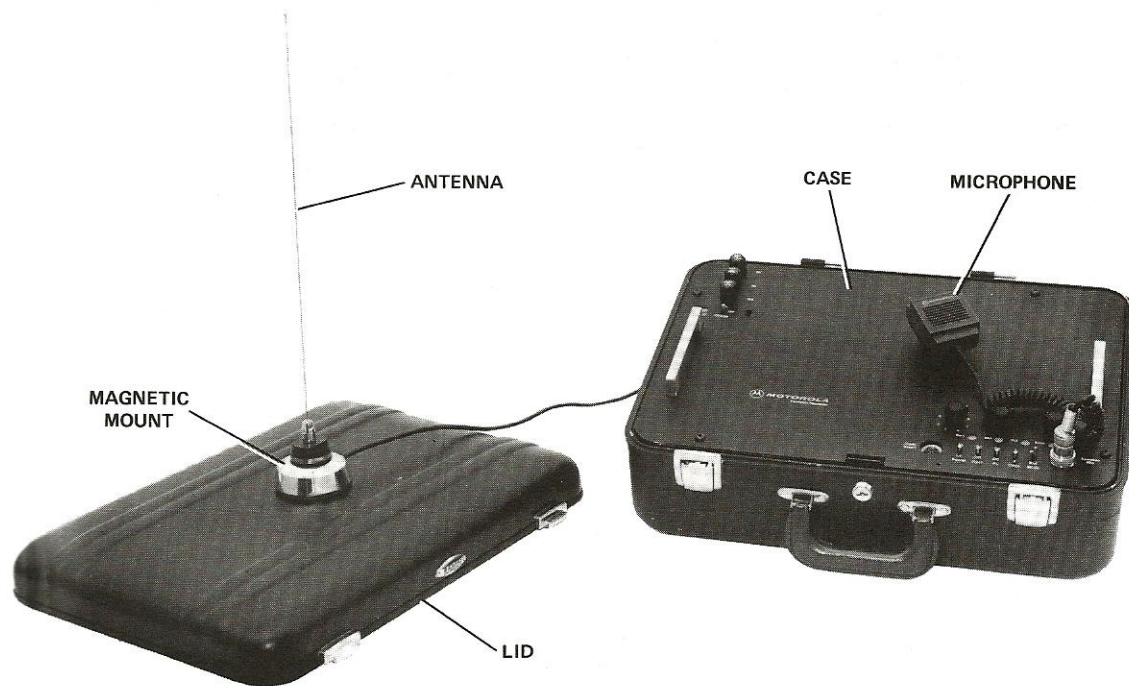

Figure 2-3. Magnetic Mount Antenna
- c. Connect the antenna cable to the rf connector on the rear panel. Verify that the antenna whip wire is cut to proper length for frequency of use. For best performance, place the antenna as high as practicable and provide the best possible ground plane. The detachable case top may be used if no better ground plane is available; see Figure 2-3. By providing a good antenna location, adequate range may be obtained even in low power output applications.